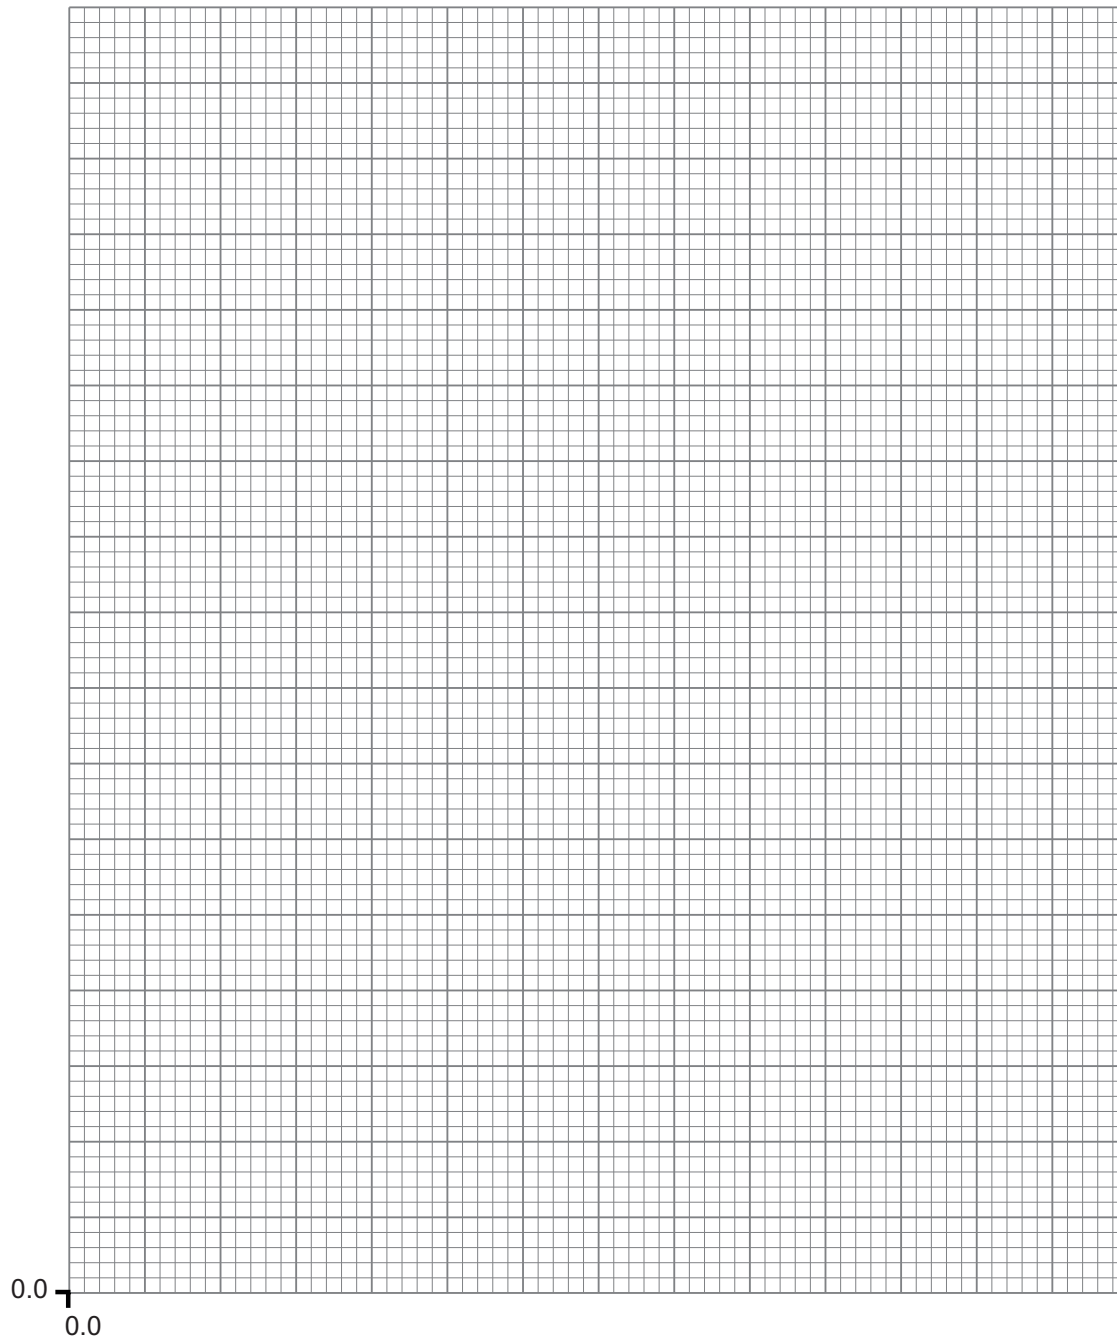

Fig. 5.1
- (iii) On the grid of **Fig. 5.1**, draw the graph given in (b)(i) using the processed data in **Table 5.1**. Label the axes and choose suitable scales. Plot the points and draw the best fit straight line. [5]
On the grid of **Fig. 5.1** draw a line to show the graph that would have been obtained if the experiment had been carried out in shallow water instead of in deep water, label this line S. Use your value of P and the space below for any necessary calculations.